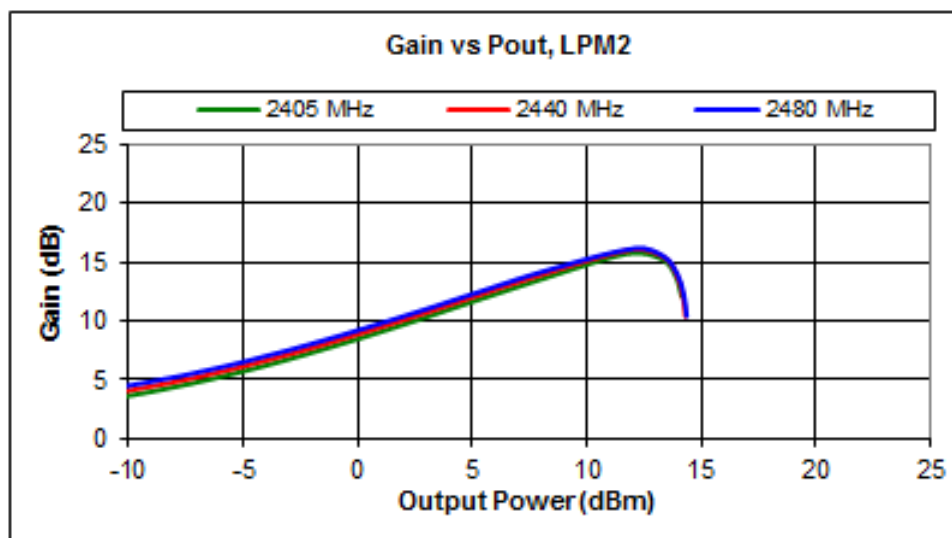

Figure 12: SKY66112-11 Gain vs. P_{OUT} , LPM2
- **LPM2:** Low Power Mode 2, where $V_{CC2} = 1.2\text{ V}$, $V_{CC1} = 1.8\text{ V}$ and $V_{DD} = 3.0\text{ V}$ @ $P_{OUT} = +13\text{ dBm}$, $P_{IN} = -3\text{ dBm}$ (see Figure 12).